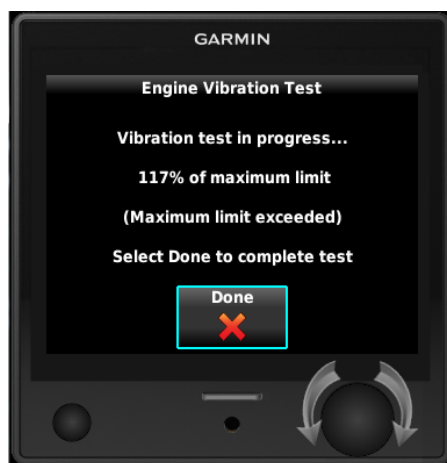

Figure 6-3 Engine Vibration Test Failure Indication
- b. Failing results will be indicated by a red "X" as shown in Figure 6-3 below. Select Done when the test has been completed and follow the instructions in Step 6 below.